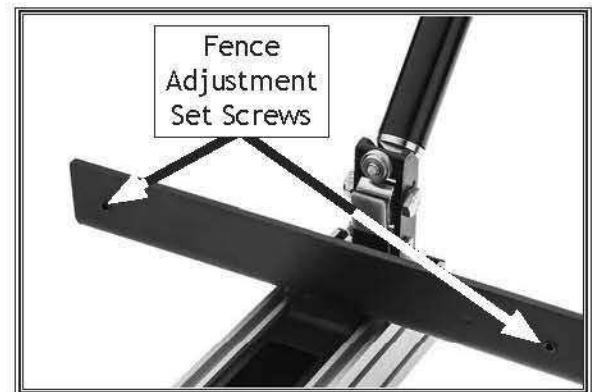

Figure 118. Location of set screws to adjust fence parallelism (shown upside down).
Two set screws at the front of the fence position it parallel with the blade (see **Figure 118**). Follow the procedures below to check the fence/blade parallelism and adjust the fence if necessary. Perform this step *only* after **Adjusting Fence** on **Page 66**.
4. Adjust two set screws on front of fence, as shown in **Figure 118**. Each set screw adjustment affects opposite side of fence.